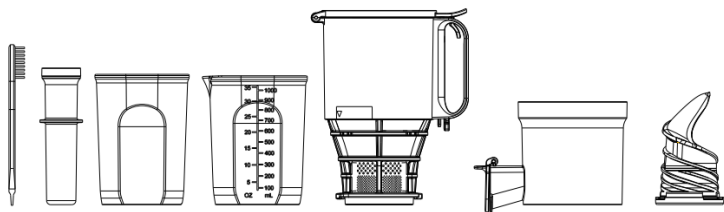

Fig10
2. Wash the disassembled parts (Fig 10) with water. If the meshes are clogged with pulp, please use the provided cleaning brush to remove the dregs.